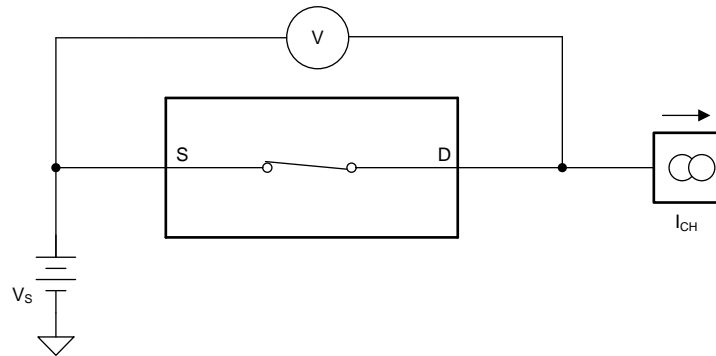

Figure 17. On-Resistance Measurement Setup
The on-resistance of the TMUX6104 is the ohmic resistance across the source (Sx) and drain (D) pins of the device. The on-resistance varies with input voltage and supply voltage. The symbol R_{ON} is used to denote on-resistance. The measurement setup used to measure R_{ON} is shown in Figure 17. Voltage (V) and current (I_{CH}) are measured using this setup, and R_{ON} is computed as shown in Equation 1: